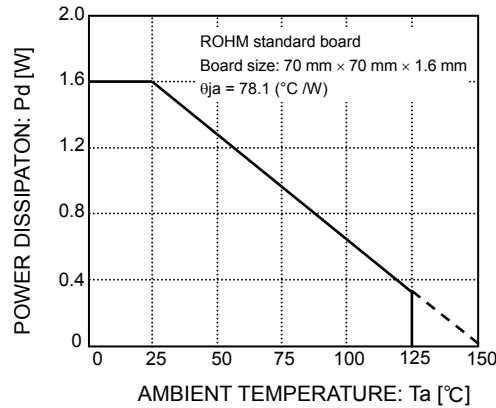

Fig.17
Refer to the dissipation reduction illustrated in Fig.17 when using the IC in an environment where Ta ≥ 25°C. The characteristics of the IC are greatly influenced by the operating temperature. If the temperature exceeds the maximum junction temperature Tjmax, the elements of the IC may be damaged. It is necessary to give sufficient consideration to the heat of the IC in view of two points, i.e., the protection of the IC from instantaneous damage and the maintenance of the reliability of the IC in long-time operation.
In order to protect the IC from thermal destruction, the operating temperature of the IC must not exceed the maximum junction temperature Tjmax. Fig.17 illustrates the power dissipation/heat mitigation characteristics for the HRP-7 package. Always operate the IC within the power dissipation (Pd). The following method is used to calculate the power consumption Pc (W).